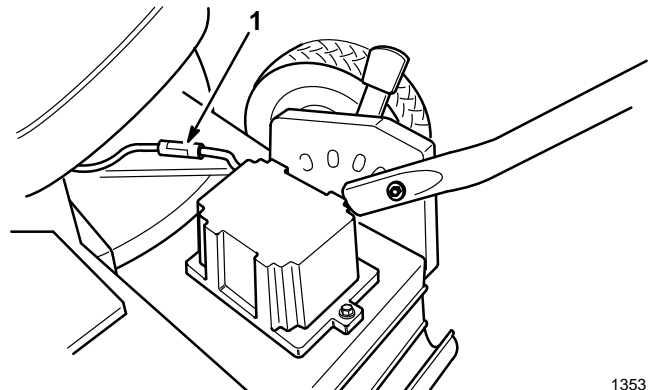

Figure 37
2. Disconnect leads connecting starter motor to battery (Fig. 37).